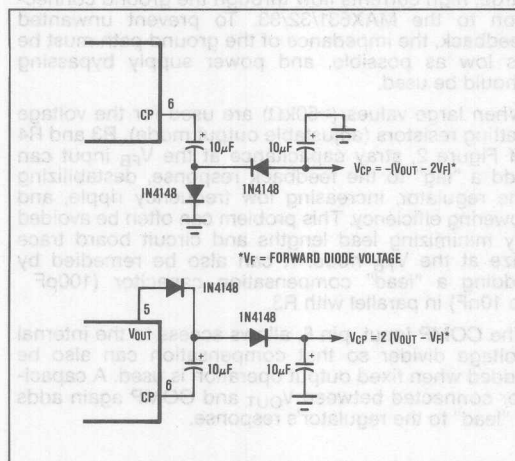

Figure 3. Using the Charge Pump (CP) output as a voltage inverter and/or doubler. Both circuits can be used together.
The Charge Pump (CP) output, pin 6, is a low impedance buffer which swings from Ground to V_{OUT} at the oscillator frequency. Two external capacitors and diodes can be connected as shown in Figure 3, to generate a negative output voltage of $-(V_{OUT} - 1.2V)$ or a positive output of $2(V_{OUT} - 1.2V)$. 1.2V is the forward drop of two silicon diodes. Both circuits can be used at once if desired. With 10 μ F capacitors, the output impedance of V_{CP} is about 30 ohms. If space is critical, the capacitors can be reduced, but with a slight increase in output impedance and V_{CP} output ripple. See also Typical Applications, Figure 4 and 5.